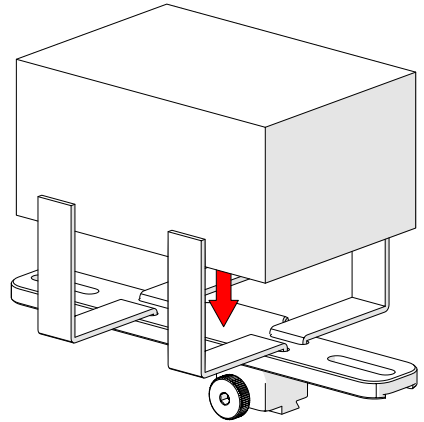

Fig. 214 - Place preamp and wrap velcro
2. Centre and place the preamp on the bracket wrapping the velcro around the preamp (*Fig. 214*).